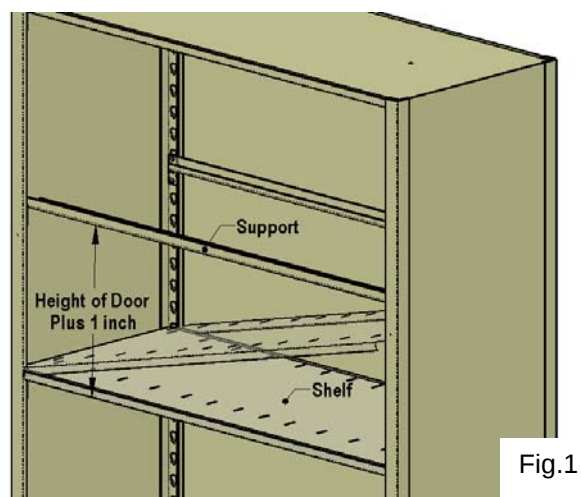

Fig.1
1. Install the shelf supports into the uprights with the center to center spacing of the door height plus 1 inch. Then install the shelf. (See Fig.1)